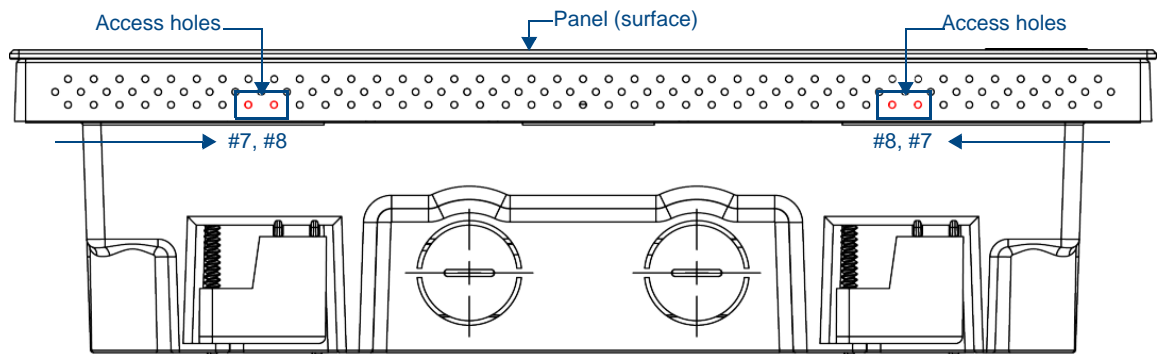

FIG. 49 Bottom View (Landscape) or Right-Side View (Portrait) of the MXD-1000 showing access holes in molding
2. On the bottom (Landscape) or right side (Portrait) of the MXD-1000, locate the **seventh and eighth** ventilation holes from each edge, on the row closest to the Backbox (FIG. 49):
2. On the bottom (Landscape) or right side (Portrait) of the MXD-700, locate the **fifth** ventilation holes from each edge, on the row closest to the Backbox (FIG. 49):